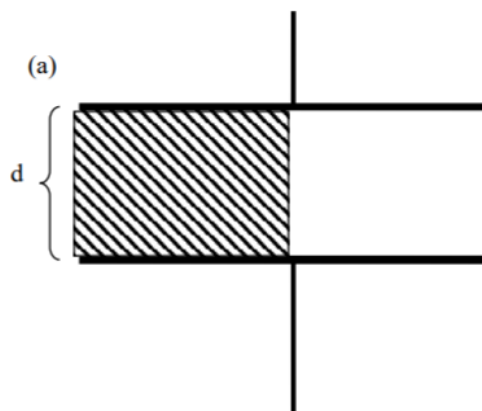

Figure 2
For figure 2, since the capacitor plates are at the same potential, the capacitor is like two capacitors connected in parallel with half area each.
- a. Insert material as in figure 2
This part of the experiment aims to find a general formula for calculating the capacitance of the partially filled capacitor. The experiment will be restricted to partial fullness as in figure 2 (there will be no air between plate and the edge of the insulator). The result of this part is to find linear dependence between partial fullness and capacitance of the capacitor.